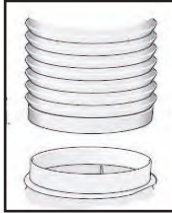

Fig. 5
### Connection to exhaust air pipe (Fig. 5)
- Attach  $\varnothing 150\text{mm}$  pipe directly to the air outlet and secure appropriately (Fig. 5).